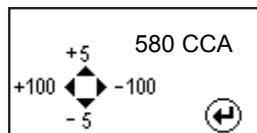

Fig.17
15. To enter the value, press key ◀ ▶ will increase or decrease the original value shown on the display by 100 units .Likewise use ▲ ▼ key to increase or decrease the last two digits step of 5 units for each pressing (Fig.17).